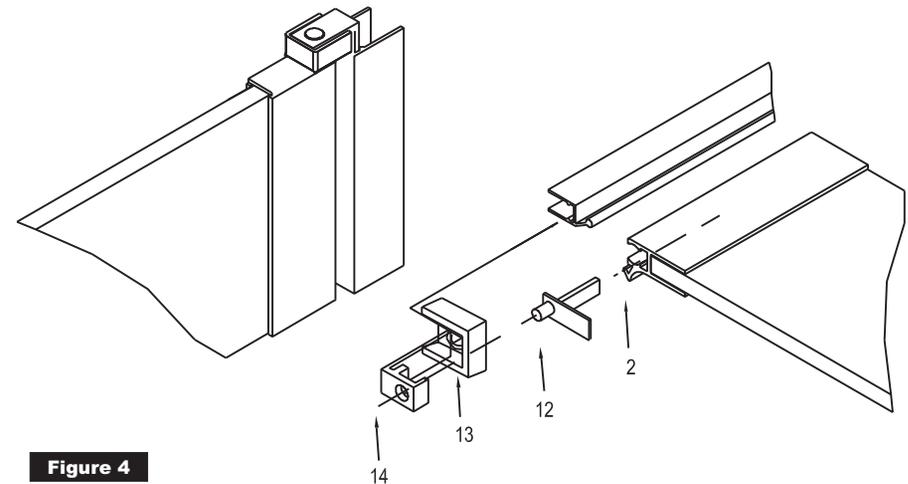

Figure 4
5. Set hinge bushing (13) in place over the hinge clip (14) and push the hinge pin (12) into the hinge bushing. Drive the clip with the bushing and pin into the bottom end of the hinge jamb (See Figure 4). Slip the hinge jamb sleeve (10) over ball of hinge jamb. Place the hinge jamb with sleeve, clip, bushings, and pin in place inside the hinge rail. (Screw holes in hinge jamb to the inside of door). Slip the second pin in place in the hinge rail at the top of the door, place the bushing over the clip and drive the clip into the jamb securing the pin to the bushing.